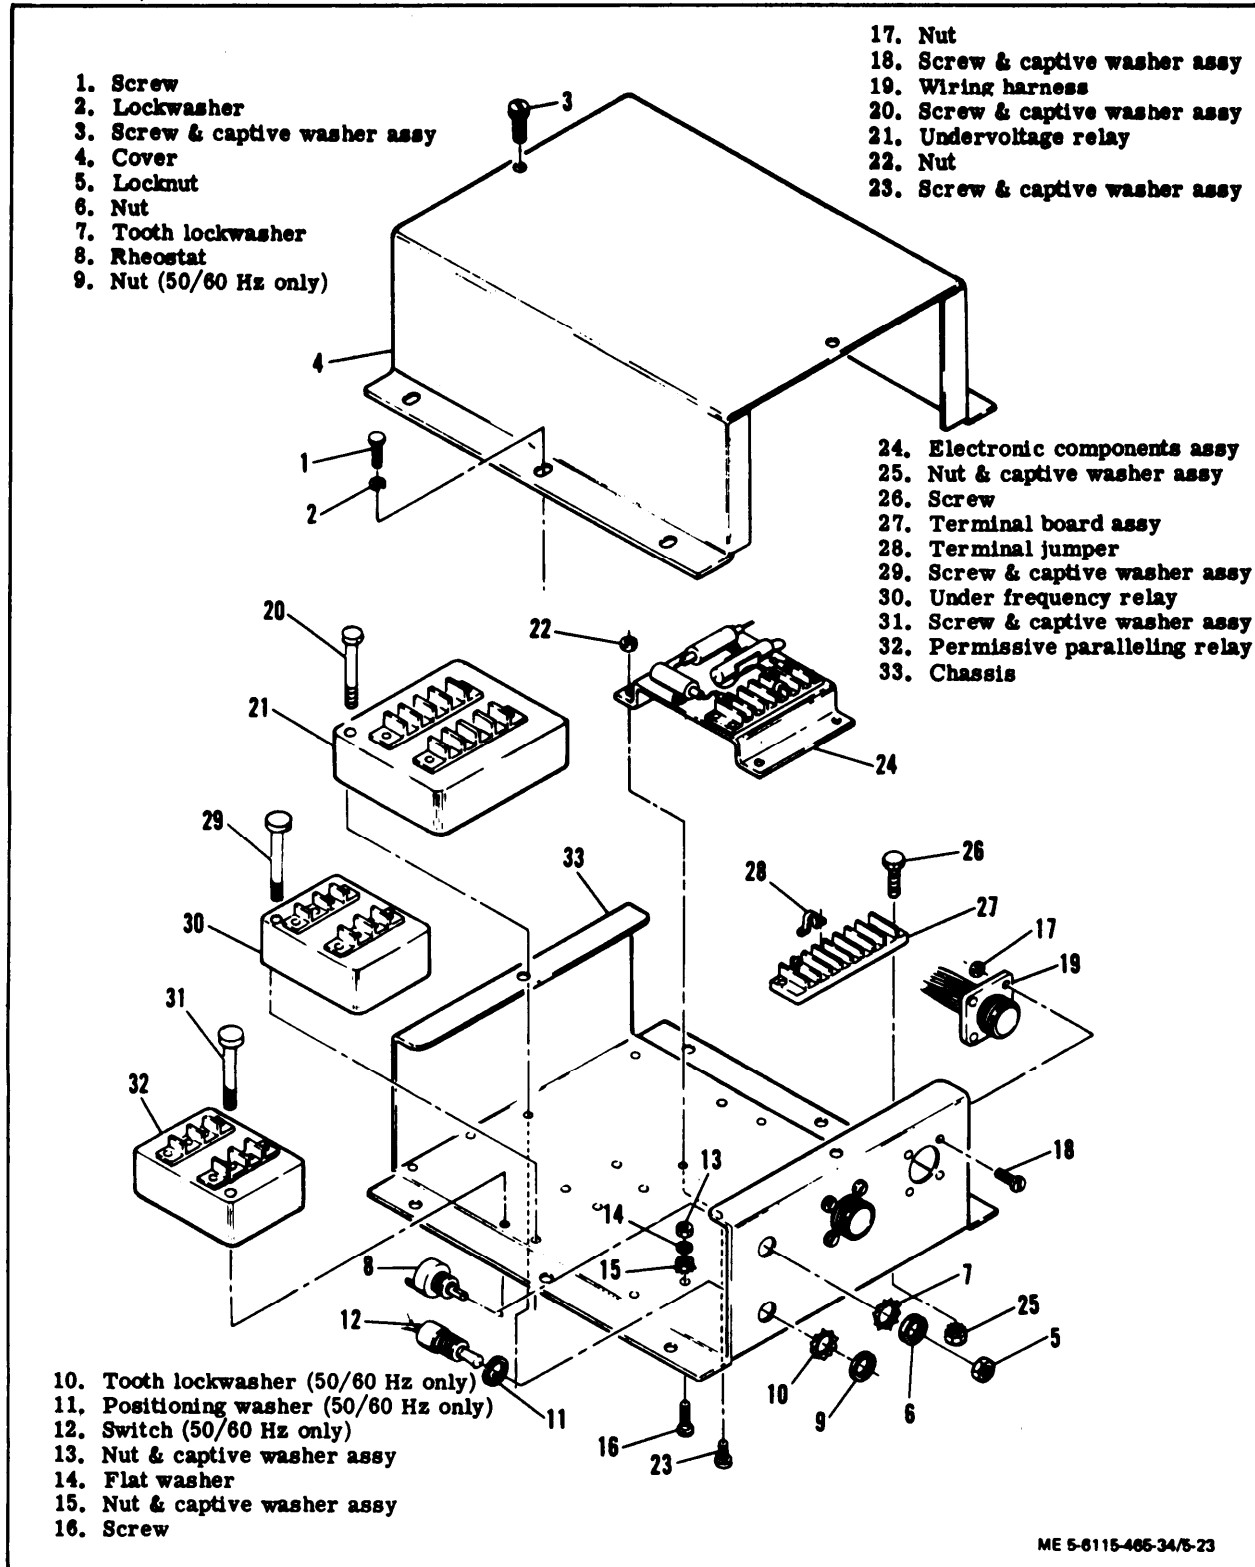

Figure 5-23. Precise Relay Assembly, Exploded View
(1) Disconnect electrical connectors to precise relay assembly.
(2) Remove screws (1, figure 5-23) and lockwashers (2) to remove precise relay assembly from generator set.
b. Disassembly. Disassemble precise relay assembly (items 3 through 33, figure 5-23) only as required to clean, inspect, test, or replace parts.